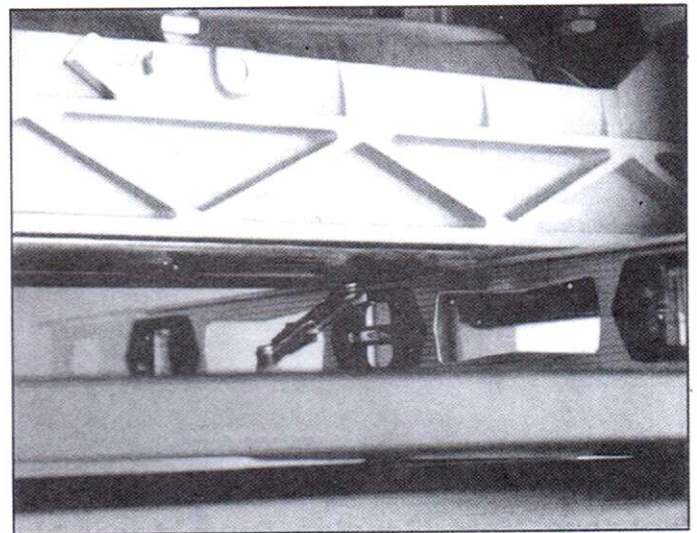

Figure 10
2. Check the sanding drum to conveyor table alignment by first removing the abrasive strip from the drum. The purpose of this adjustment is to achieve equal distances at point A and point B which will ensure that the drum is parallel to the feed table and provide uniform sanding. (See Figures 10 and 11.)